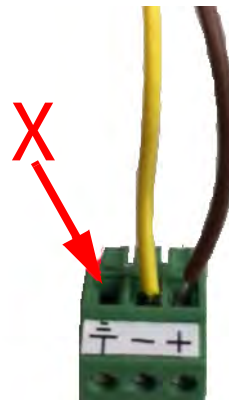

Figure 5-24 DO NOT connect to the ground connection
4. Connect the receiving wires to the terminals according to their labeling (positive and ground) (Figure 5-24).
If your analog signal line has a drain DO NOT connect that to the ground connection of the 308 Analog Output card (Figure 5-24). It can become a source to inject noise into the circuit.